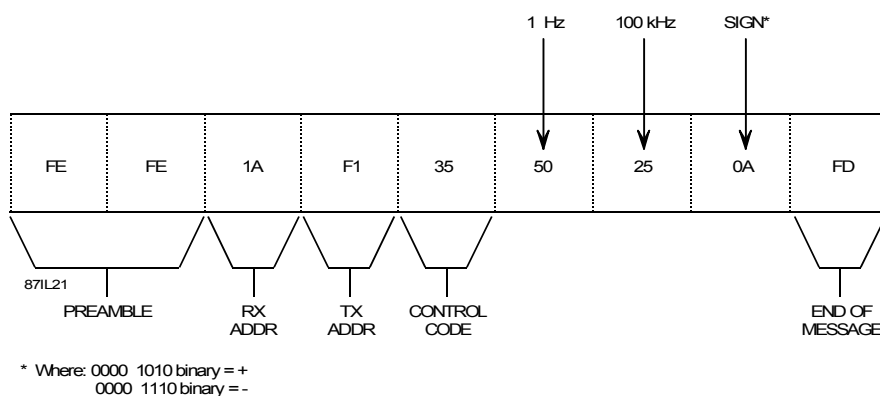

**Figure 5-15. Manual Gain Level Request Format**
*Figure 5-15* shows an example of the typical response format when requesting the receiver's manual gain level with control code [32].